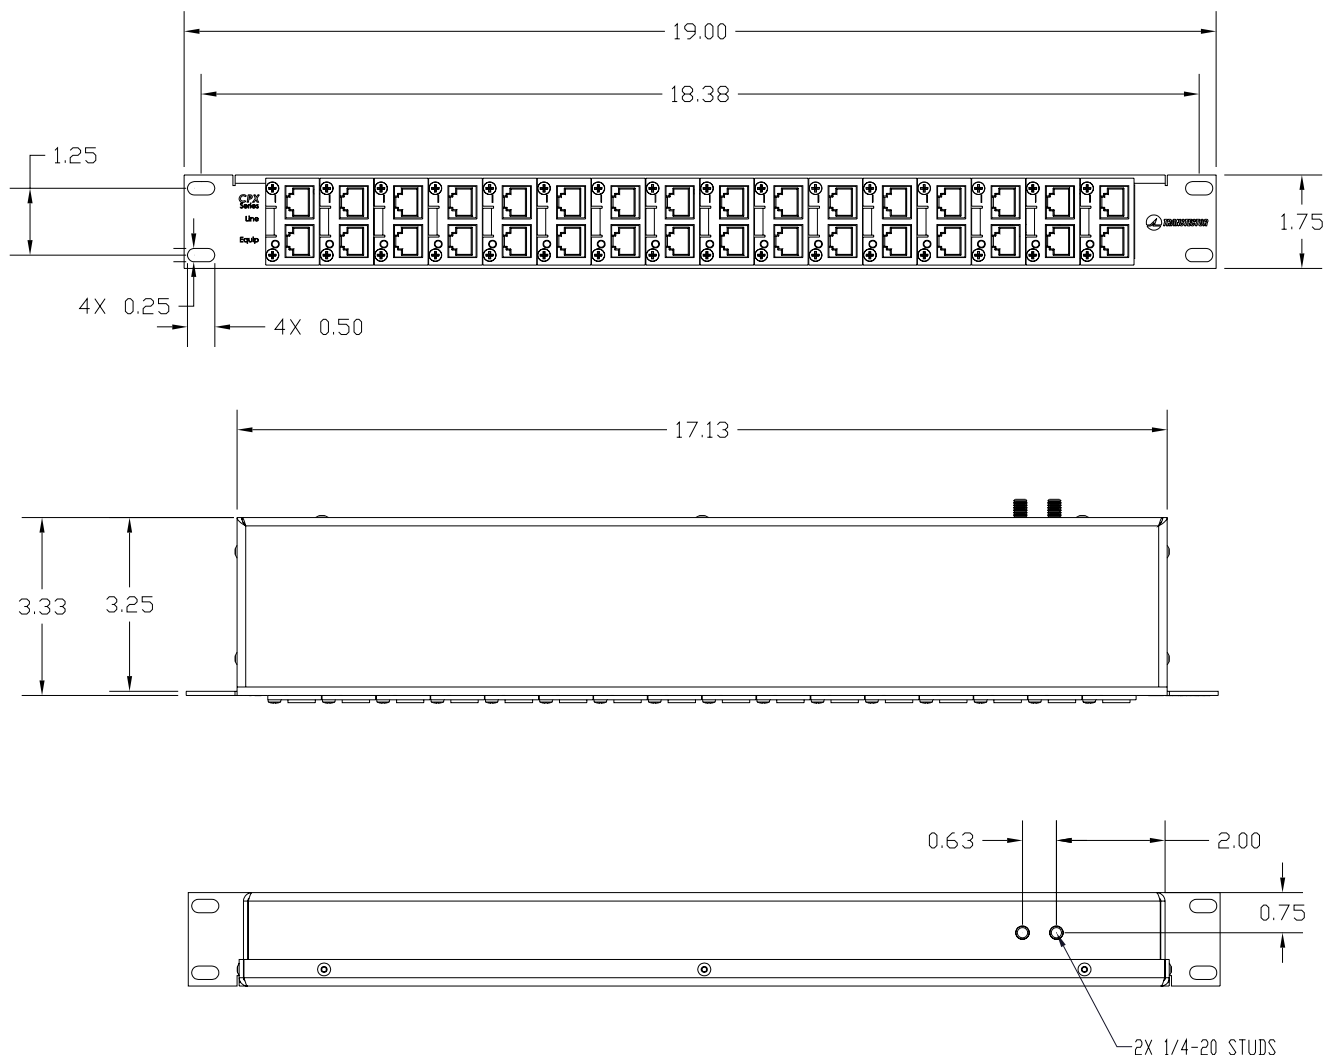
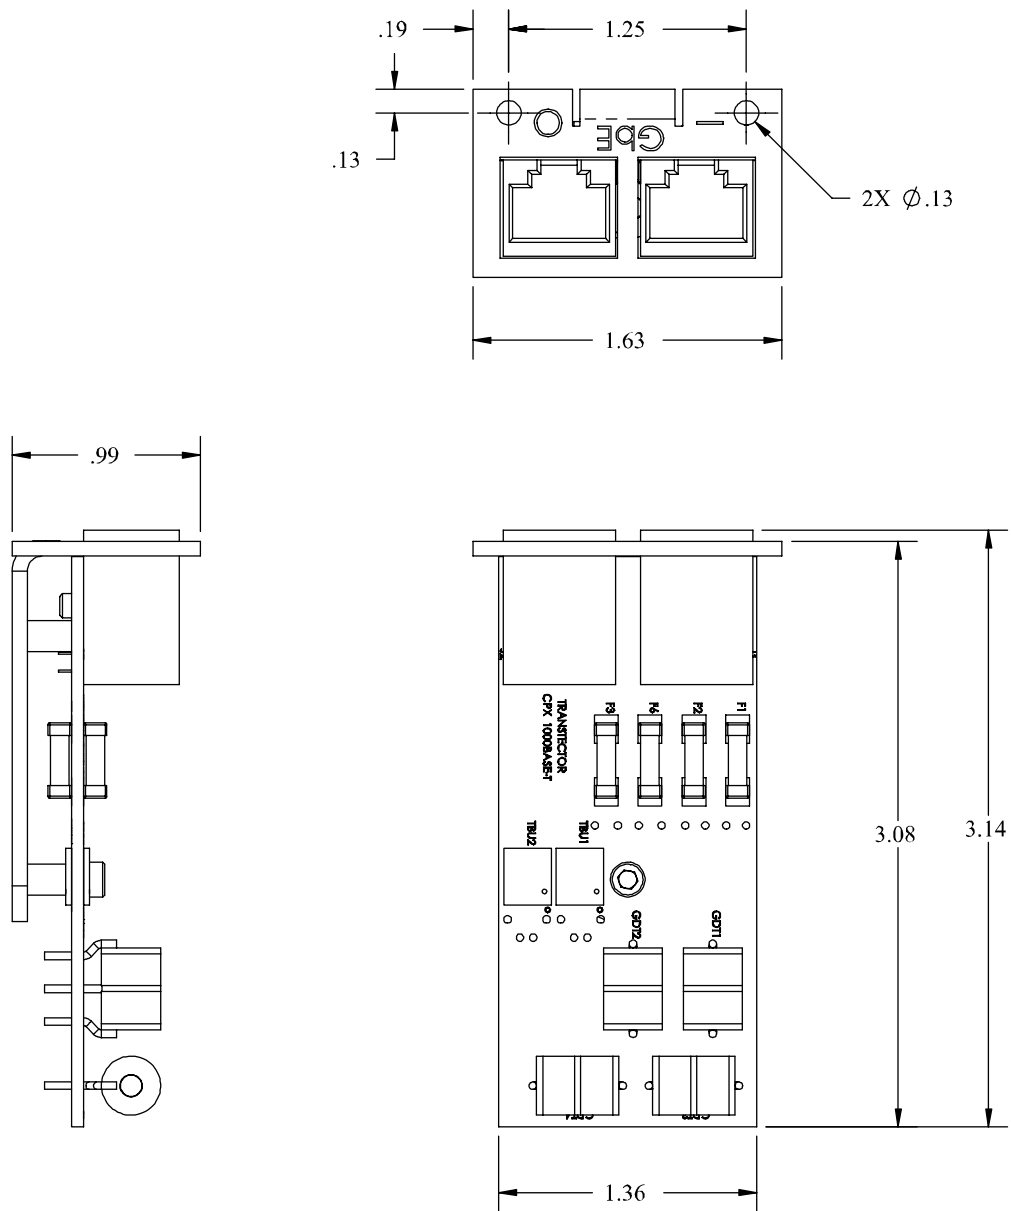

Figure 1: CPX Series Mechanical Outline Drawing
Figure 2: CPX Protection Module Mechanical Outline Drawing
6. **INSTALLATION:** The CPX SERIES is intended to be installed per article 800 of the NEC indoors, using one rack space within a 19" RS-310-C standard rack. Attach the CPX SERIES into the 19" rack using the four each 10-32 screws at each corner of the chassis front face (hardware provided). A mechanical outline drawing is shown in Figure 1. **Warning!!** The dedicated dual ground studs on the rear of the unit must be connected to the nearest master ground bar for proper operation. Refer to Transtector installation instruction document 1200-201 for installation, wiring & replacement of the individual protection modules; an outline drawing for the modules is given in Figure 2.